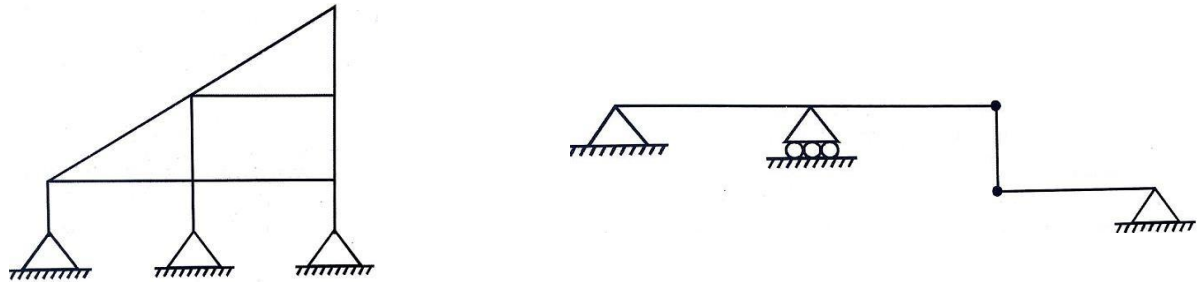

Figure 1.7
8. Determine degree of redundancy for the following beam shown in Figure 1.7